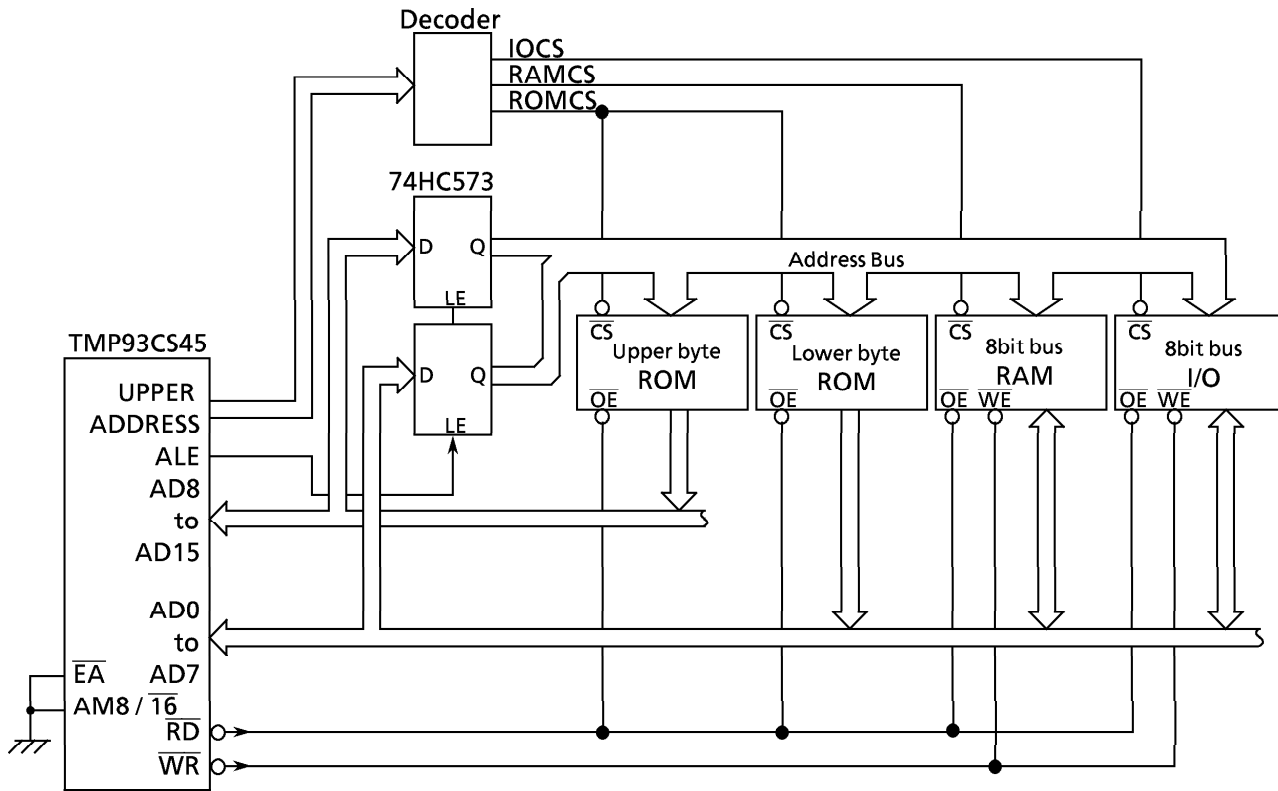

Figure 3.6 (2) Example of external Memory Connection (ROM = 16 bits, RAM & I/O = 8 bits)
(1) Example of Usage -1
Figure 3.6 (2) is an example in which an external memory is connected to the TMP93CS45. In this example, a ROM is connected using 16 bit Bus; a RAM is connected using 8 bit Bus.